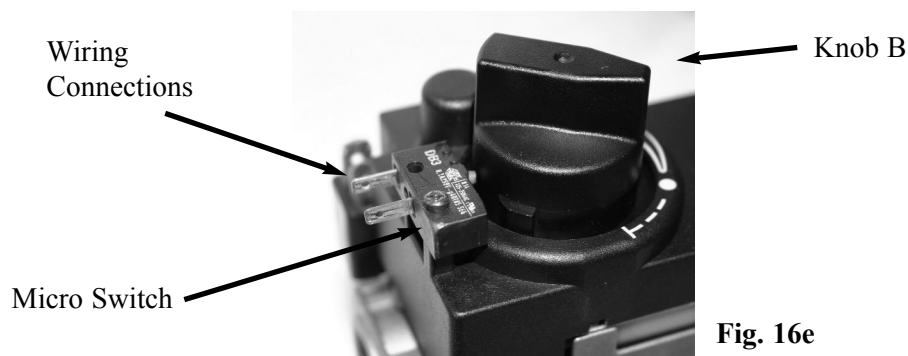

Fig. 16e
5) Take the micro switch and fix to the front of the valve cover with the self tapping screw provided. Switch is located onto the lug moulded within the valve cover, next to knob B. See Fig. 16e.